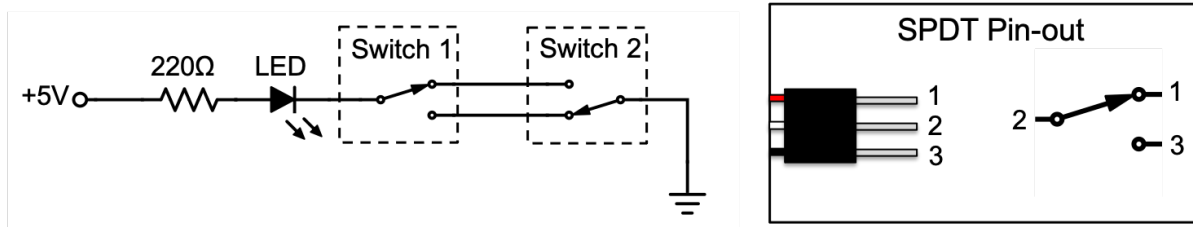

**Figure 3** – A CdS photocell is wired up in a voltage divider circuit. The output voltage  $V_{OUT}$  depends on the light intensity incident on the photocell.
1. Sketch the circuit diagram shown in Figure 3 in your lab notebook.
6. Use the breadboard to create the photocell voltage divider circuit shown in Figure 3. Make sure you use the fixed 5V DC power supply on the breadboard.
9. Compare the resistances and voltages to what you computed using Eq. (1). Do the values make sense?